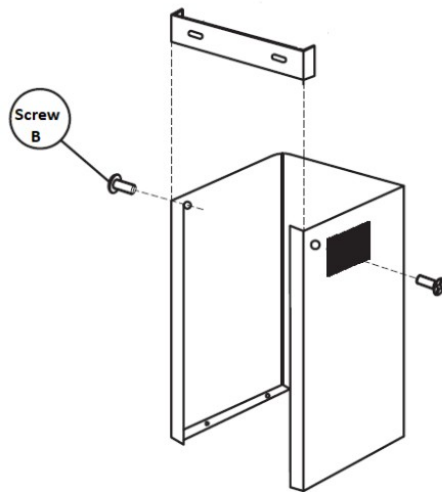

Fig. 5
5. Fixing the upper flue to the bracket by using Screw B, shown as below in Fig.5.